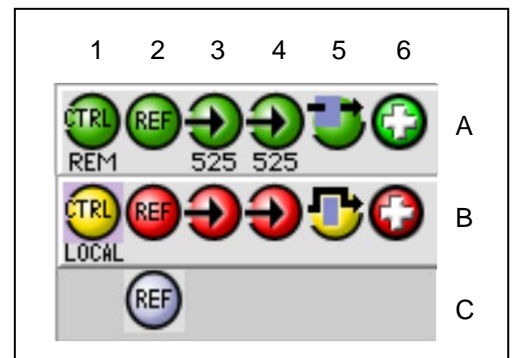

Figure 3.3 Status Icons
1. The Status Icon area shows a series of six icons that report the status of some card parameters. Figure 3.3 shows the various forms that may appear; their meaning is described below.